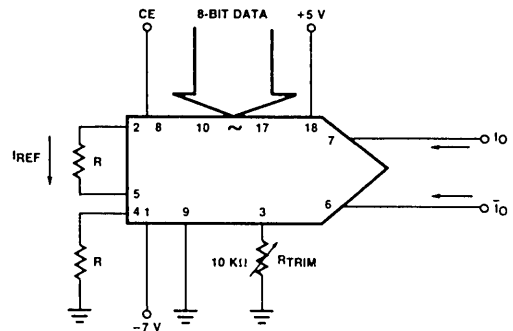

Figure 10. Basic Configuration
Figure 10 shows the basic configuration of the XR-9201 D/A converter. The input data bits to the chip can be latched (stored) in the D/A by controlling the chip enable (CE) pin. When CE is "high" (>2.0 volts), the latch is transparent and data bits present are passed through the latch and directly control the D/A converter switches. When CE is "low" (<0.8 volts), the data bits within the latch are retained and remain there until CE goes "high" again. When CE is "low", the data bits at the inputs are ignored until CE goes "high". This interval latch provides a useful interface with microprocessors.